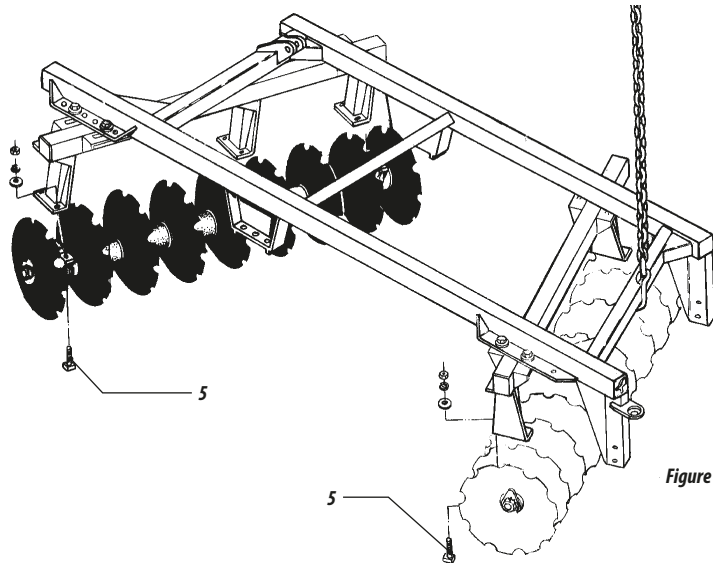

Figure 5
- 09 - Install the frame (3) over the gangs and attach using the bolts (4), lock (5), washer (6) and nut (7).
- 10 - Lift a part of the grid (front or rear), place the set of discs in line, observing their arrangement in figure 5. Match the holes in the shoes with those in the bearings and assemble using the screws item 5 figure 5.